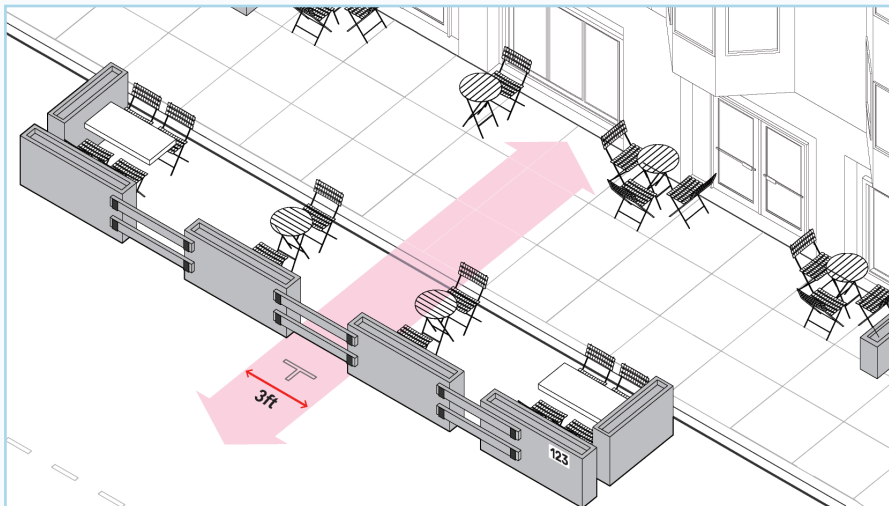

Figure 1
- A **minimum 3-foot-wide emergency access gap**, with vertical and horizontal clearance, is required for every 20 feet of structure length, or from existing adjacent Shared Spaces or other structures in the parking lane (see Figure 1).
- The gap must be kept clear of any tables and chairs or other elements. The pathway between the building and each 3-foot-wide emergency access opening, through the Shared Spaces and over the sidewalk, **shall remain clear of fixed overhead obstructions** (string lights, canopies, decorations, heaters, wires, poles, etc.) at all times. Ladders and other emergency equipment may need to be carried through the opening to the building (see Figure 1).